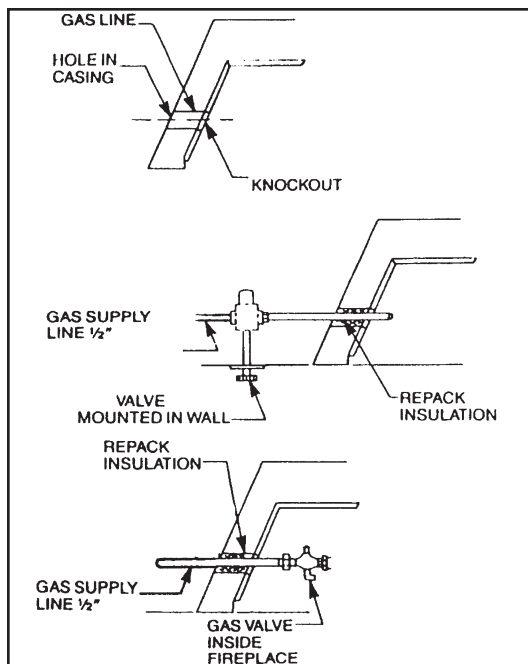

Figure 3. Gas line installation - Pre-fabricated Fireplace
- An ON-OFF valve should be placed within easy reach of the fireplace either inside the fireplace or in the wall. Re-pack any insulation removed from the gas line tube. (See Figure 3)